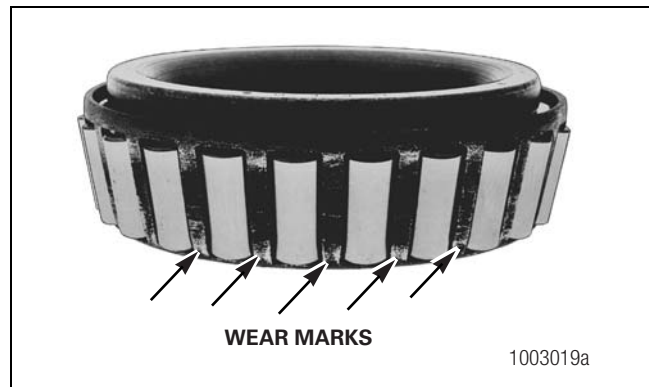

Figure 3.26
- Bright wear marks appear on the outer surface of the roller cage. Figure 3.26.